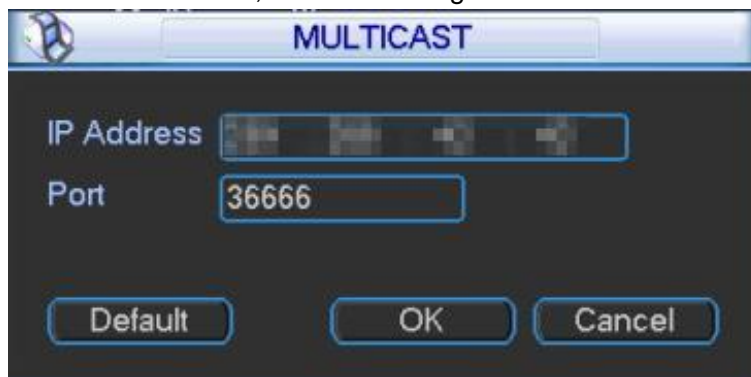

Figure 3-41
Step 1 In main menu, select "Setup> Network> Network Setup > Multicast", and the system displays "Multicast" interface, as shown in Figure 3-41.